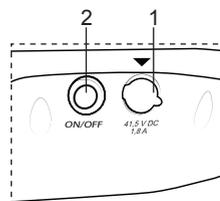

Fig. 1
**WARNING** – Do not connect the battery charger (8, 9), if the charging port (1) is wet.
- The charging port (1) is located next to the ON / OFF button (2) (Fig. 1).
- Connect the charging cable (8) with the power cord (9).
- Connect the other end of the charging cable (8) with the charging port (1).
- Connect the power cord (9) to a mains socket. Pay attention to the specifications on the battery charger's rating plate (8, 9).